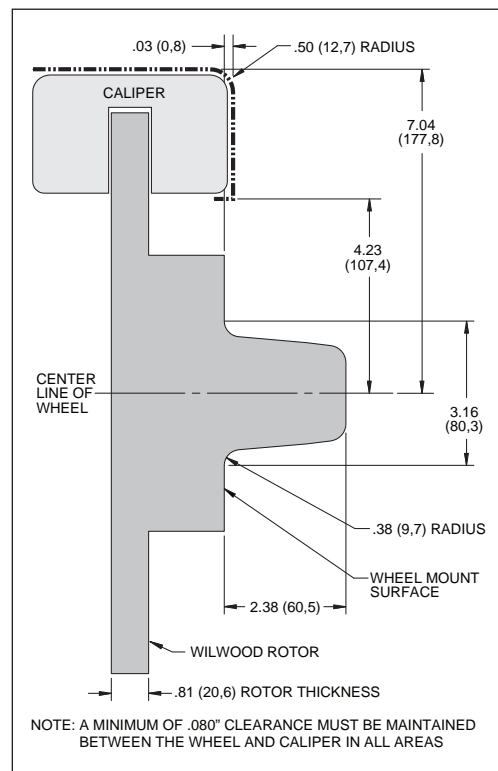

Figure 4. Wheel Clearance Diagram
- Review the Wheel Clearance Diagram (Figure 4, page 5) to verify that there is adequate clearance with the wheels you will be using with the installation.
- Verify wheel clearance using Figure 4.